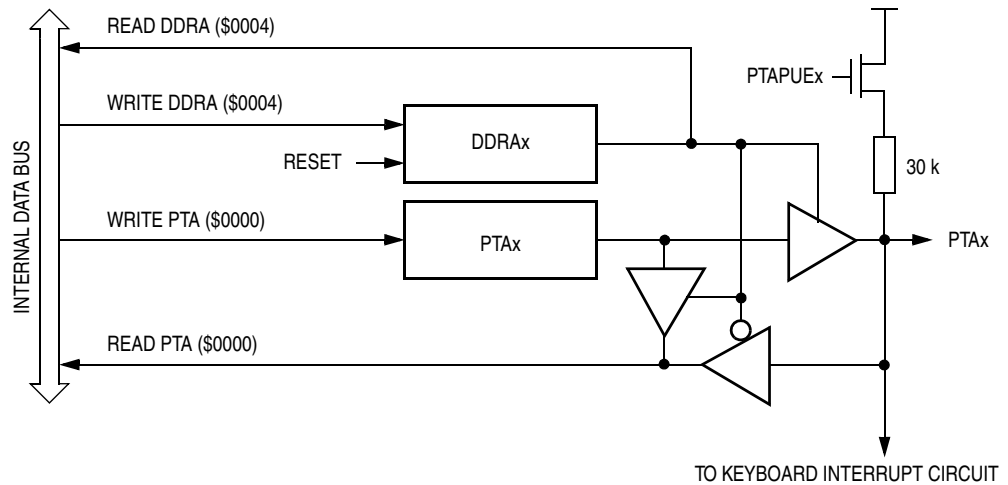

Figure 13-4. Port A I/O Circuit
Figure 13-4 shows the port A I/O logic.
**NOTE:** Figure 13-4 does not apply to PTA2